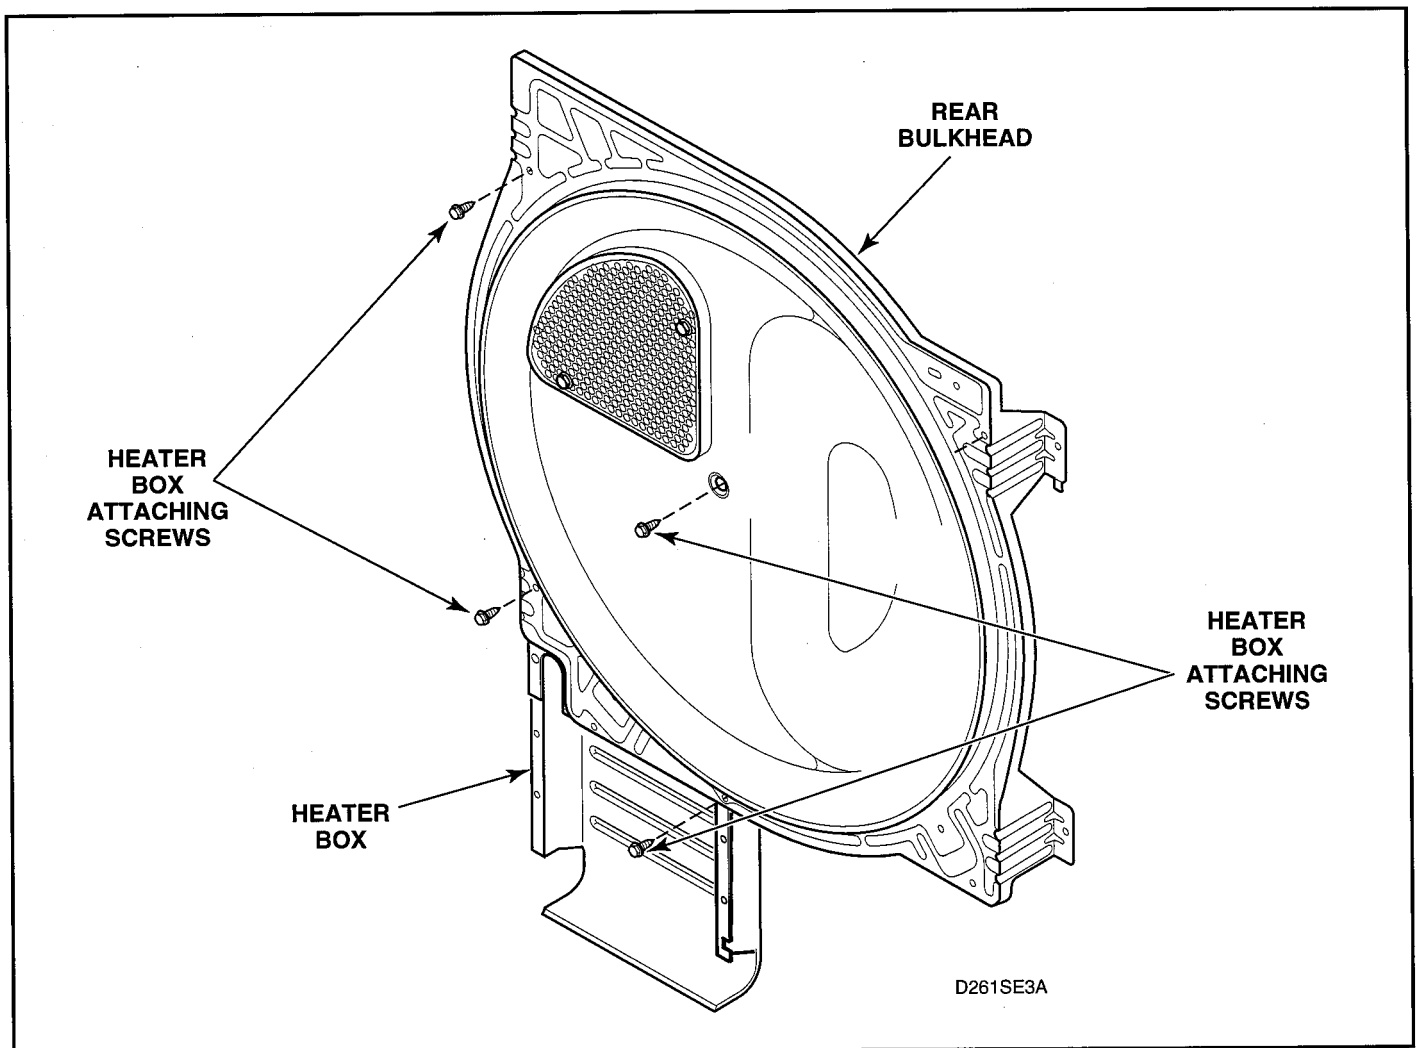

Figure 5-29
- l. To remove heater box from rear bulkhead. See figure 5-29.